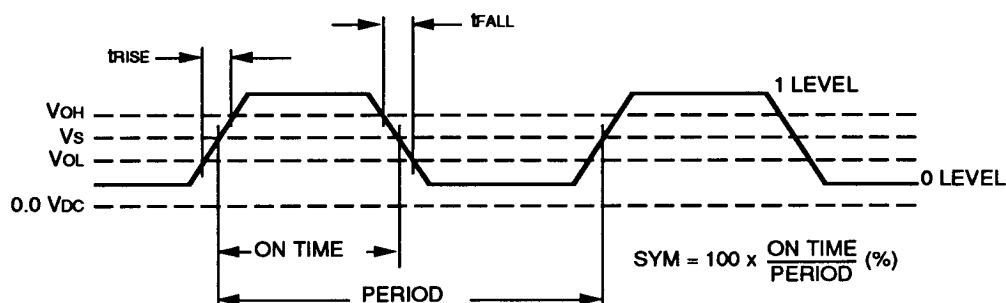

Figure 3. Output Waveform
* Figure 3 defines these parameters.
† Symmetry or Duty Cycle is the ON TIME/PERIOD with Vs = 1.4 V for TTL, per Figure 3.